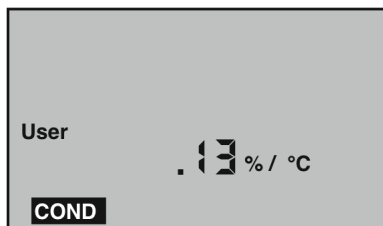

Figure 2
- b. With User mode now selected, press CAL / MCLR . You may now adjust a temperature compensation from .00%/°C to 9.99%/°C, by pressing MS (up arrow) or MR (down arrow). See example in Figure 2, pg. 26.